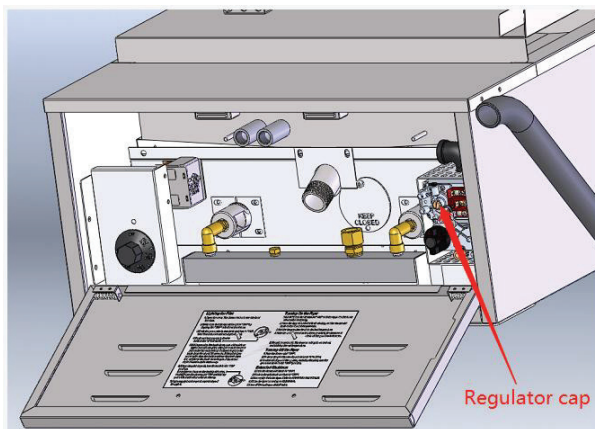

Fig. 5
8. Convert the gas valve regulator of the main control valve (See Fig. 5).